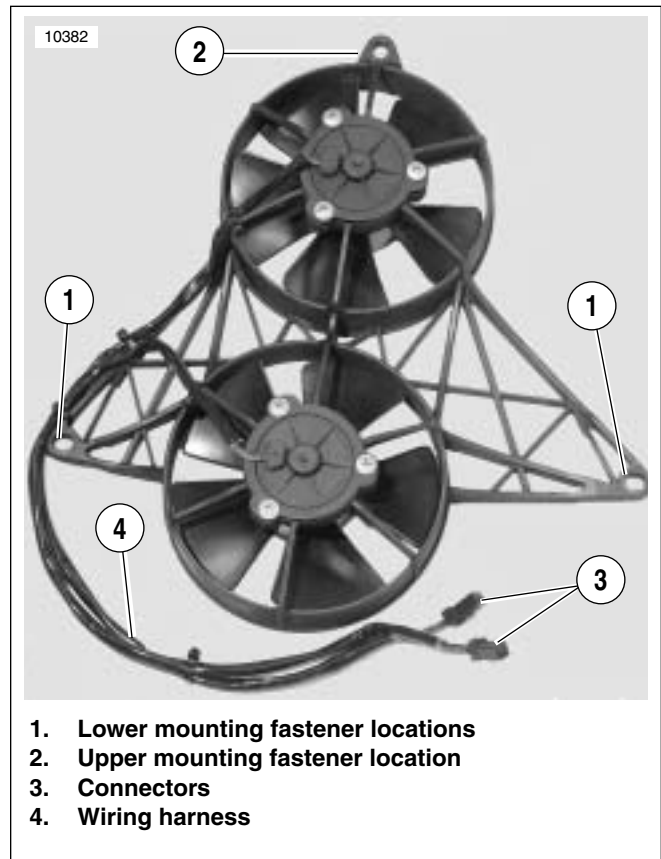

Figure 8-72. Cooling Fan Assembly
1. See Figure 8-72. Remove two lower mounting fasteners (1) on fan assembly.
2. Loosen upper radiator mounting fastener (2).
1. See Figure 8-72. Install cooling fan assembly with fan wiring harness to left side of radiator.